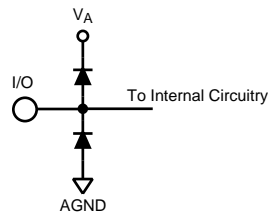

Figure 2.
- (1) The inputs are protected as shown below. Input voltage magnitudes above V_A or below GND will not damage this device, provided current is limited per Note 4 of the Absolute Maximum Ratings Table. However, errors in the A/D conversion can occur if the input goes above 2.6V or below GND as described in the Operating Ratings section. See Figure 2.
- (2) With a full scale differential input of $2V_{P-P}$, the 12-bit LSB is $488\text{ }\mu\text{V}$.
- (3) Typical figures are at $T_A = 25^\circ\text{C}$ and represent most likely parametric norms at the time of product characterization. The typical specifications are not ensured.
- (4) This parameter is specified in units of dBFS - indicating the value that would be attained with a full-scale input signal.
- (2) With a full scale differential input of $2V_{P-P}$, the 12-bit LSB is 488 μV .
- (2) With a full scale differential input of $2V_{P,P}$, the 12-bit LSB is 488 μV .
- (4) This parameter is specified by design and/or characterization and is not tested in production.